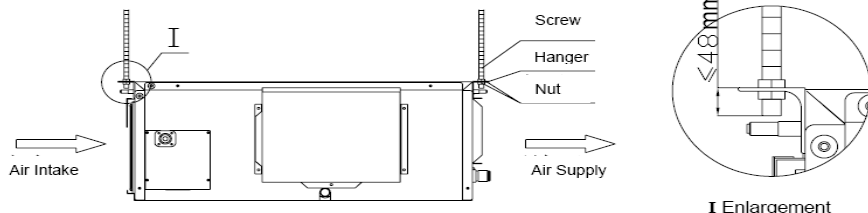

Fig.41
- (3) Install the indoor unit at the ceiling as Fig.41 shows.